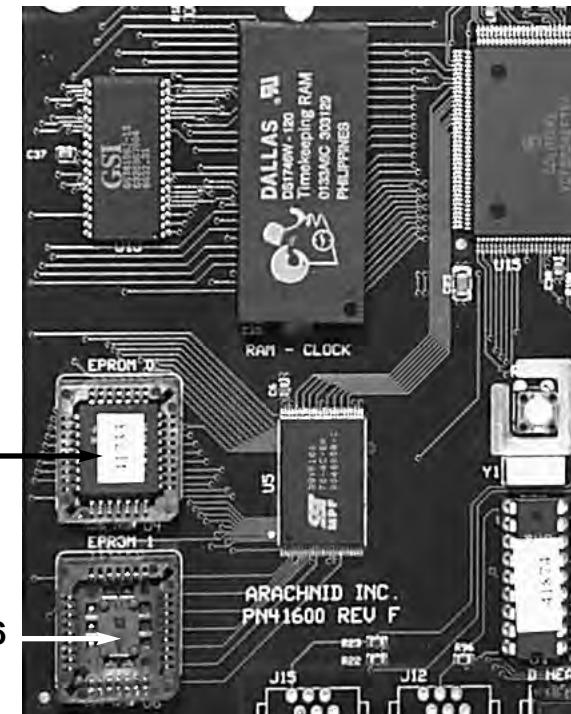

Figure B1 - Mainboard Detail
2. Insert a blank FLASH IC (or a FLASH IC that needs to be updated) into IC socket U6. Make sure that it is in the socket with pin 1 in the proper position. (**See figure B1**)